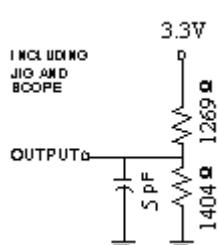

FIGURE 1B
6. Transition is measured $\pm 500\text{mV}$ from steady state with $CL = 5\text{pF}$ as shown in Figure 1B. The parameter is guaranteed but not 100% tested.
10. Transition is measured $\pm 500mV$ from steady state with CL = 5pF as shown in Figure 1B. The parameter is guaranteed but not 100% tested.